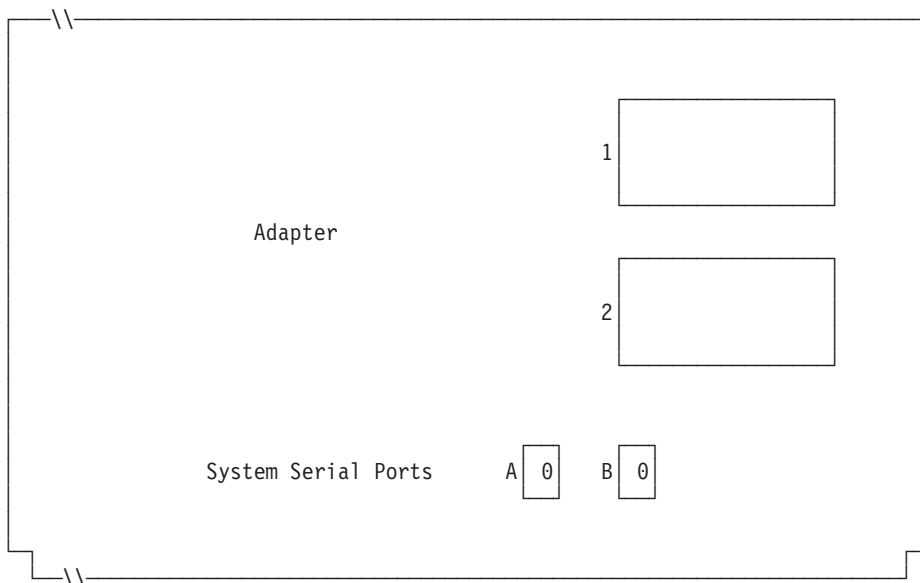

Figure 107. Right Side of Rear of 4694-2x4 or 4694-245 Controller/Terminal
6. If terminal applications use the asynchronous port, write the port number on Figure 107. Use a 0 if the terminal does not use a port. Valid port numbers are 1, 2, 3, 4.